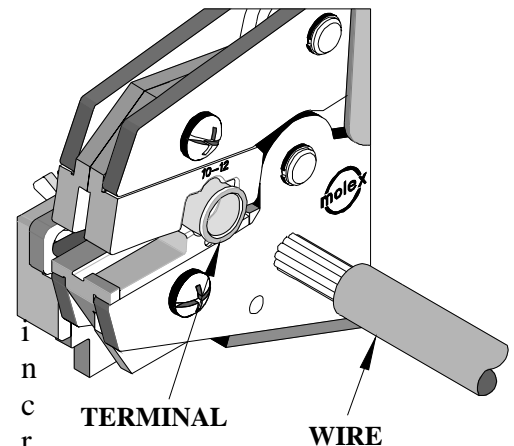

Figure 2
2. Partially close the tool to hold the terminal in place (See Figure 2).
3. Insert the properly stripped wire into the terminal barrel (See Figure 2 and 3). The wires end should butt against the wire stop position of the locator. Cycle the tool.